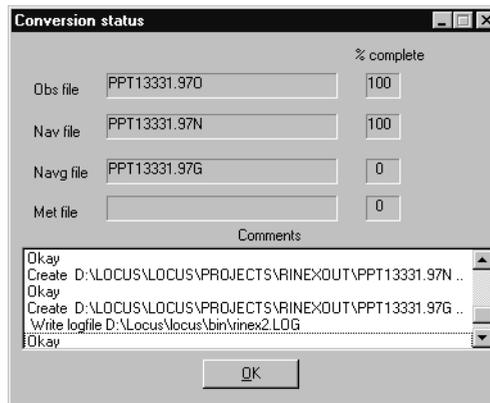

Figure B.14. Conversion Status Dialog Box
20. Click **Begin** to convert the selected Ashtech files to RINEX format. The **Conversion Status** dialog box opens (Figure B.14), showing the status of the conversion process. Upon completion, the dialog box indicates 100% for each file.